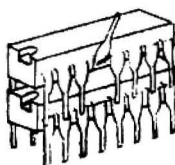

FIGURE 1.
1. To provide an additional 16K of RAM to a 16K Color Computer, obtain eight more 4116 dynamic RAM chips. These may be "piggy-backed" by placing them over the existing chips and soldering all pins (except Pin-4) onto the corresponding pins of the chip below. Pin-4 should be bent up out of the way to connect in the next step. See figure 1 for a sample piggy-backed chip.